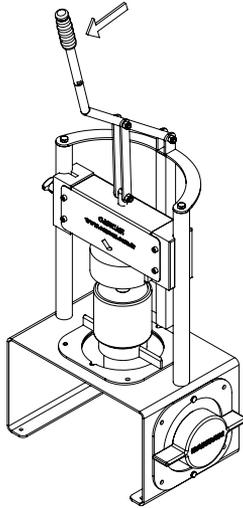

Figure 5
- Cut the two-end parts of the pineapple and place the cut pineapple on the blade. **(Figure5)**